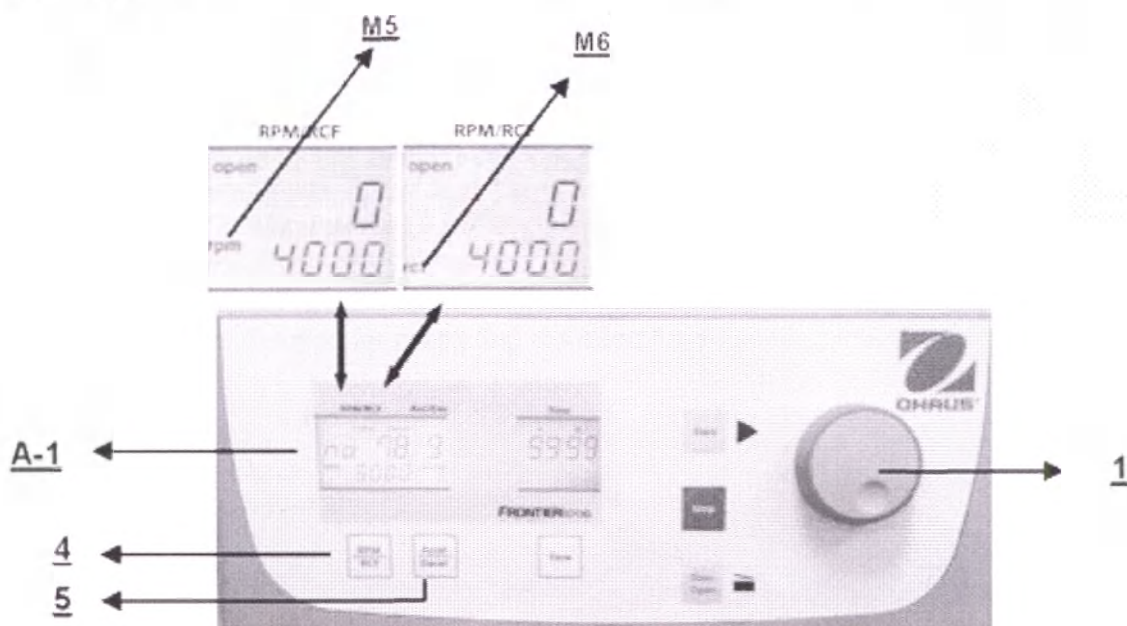

Fig. 19
To preset these parameters, the key **RPM | RCF** (4) is used (see Fig. 19 below). By pressing the key once the designation **rpm** (M5) starts blinking. By pressing the key twice the presetting of the relative centrifugal force can be selected: and the designation **rcf** (M6) starts blinking on the display. The required parameters are preset by rotating the dial (1). The set parameter value is displayed in the field (A-1) before start, during operation and after centrifugation.